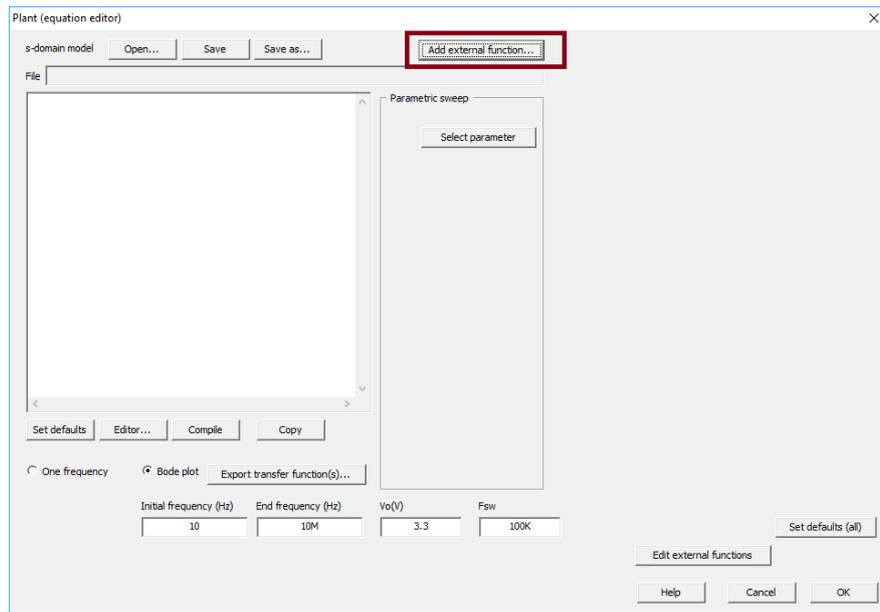

Figure 33: Adding external transfer functions in SmartCtrl
6. The window of Figure 33 will appear. Use the Add external function button to add the Psim frequency response (file T2_Psim_Double_control_loop_design.txt) and the exported SmartCtrl.